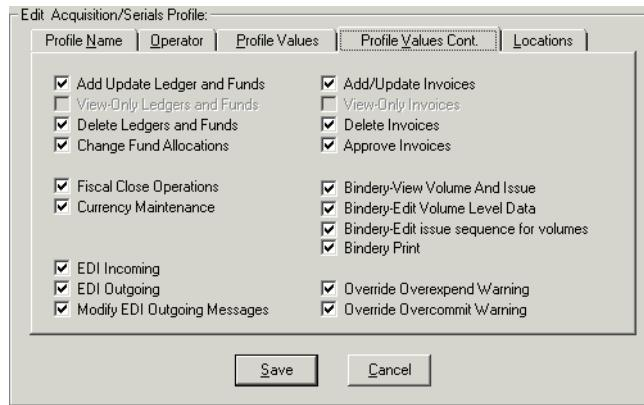

Figure 5-3. Profile Values tab - Ledgers and Funds
- 6. Click the **Profile Values** tab for the operator. Make sure the appropriate check boxes are selected for ledgers and funds (see Figure 5-3).